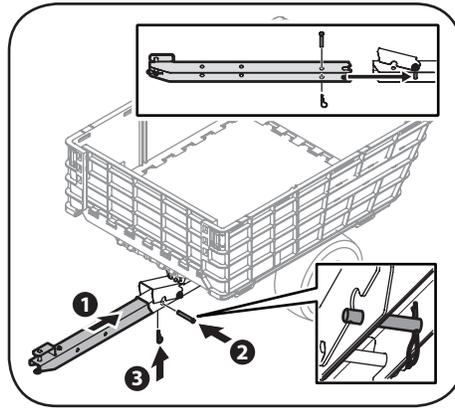

Figure 3-9
- Remove the clevis pin and the cotter pin from the tongue bracket. See the inset in Figure 3-9.
- Slide the tongue assembly into the tongue bracket as shown in Figure 3-9. Line up the rear-most hole with the hole in the tongue bracket and insert the clevis pin through the tongue assembly and the tongue bracket. Secure the clevis pin with the cotter pin as shown in Figure 3-9.
- Be sure that the clevis pin is installed on the interior of the tongue assembly and the tongue bracket as shown in the inset in Figure 3-9.